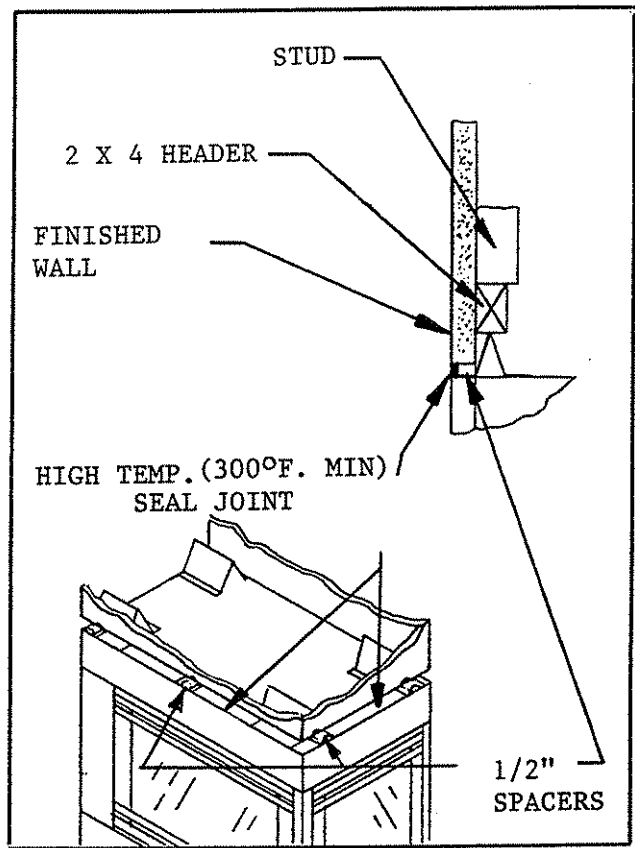

FIGURE 24
**CAUTION:** ALL JOINTS BETWEEN THE FINISHED WALL AND THE FIREPLACE SURROUND (TOP AND SIDES) CAN ONLY BE SEALED WITH NON-COMBUSTIBLE MATERIAL. ONLY NON-COMBUSTIBLE MATERIAL CAN BE APPLIED AS FACING TO THE FIREPLACE SURROUND. SEE FIGURE 24.